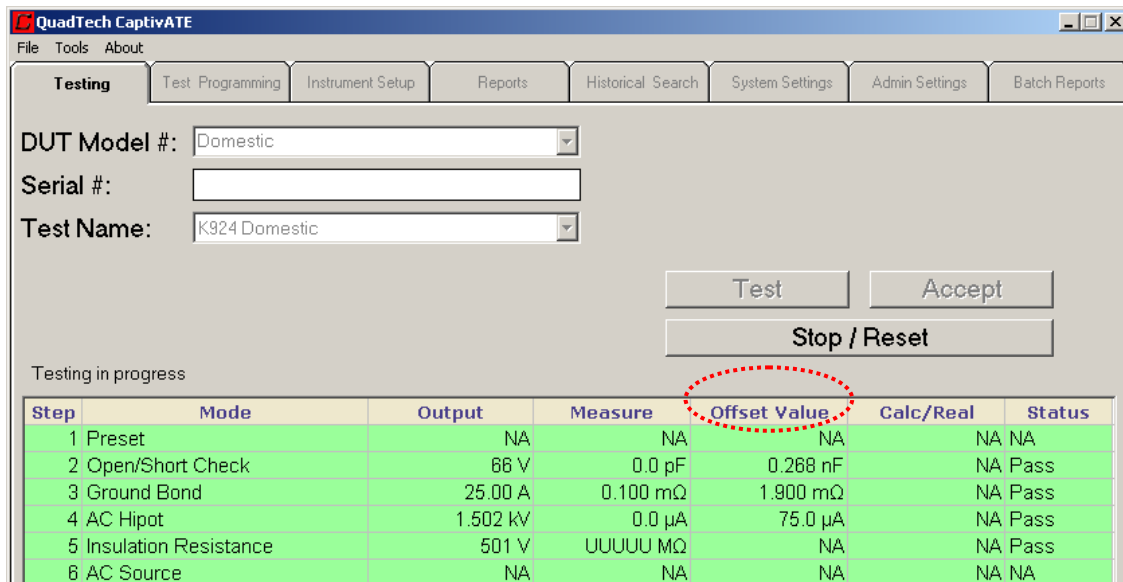

Figure 45 Testing screen Showing Offset Values
3. Click **OK**. Allow the test to start. Results of the offset procedure are displayed in Figure 45.